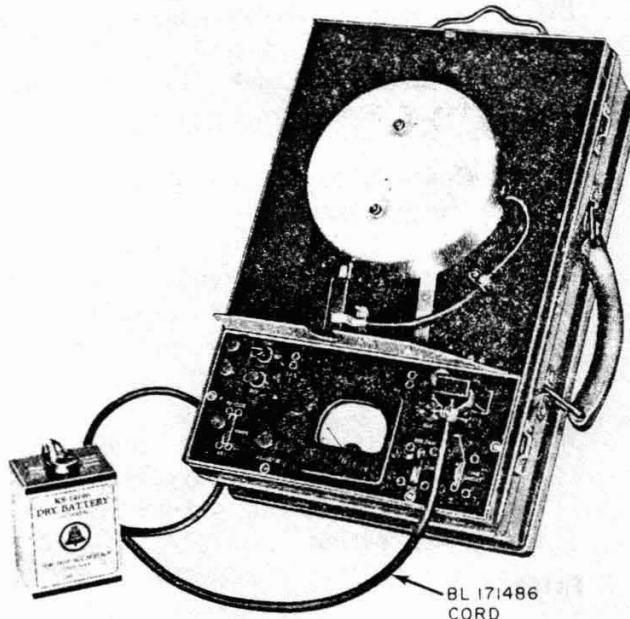

Fig. 17—Testing Individual Battery
**9.02** To test the individual KS-14196 batteries, remove the battery to be tested and insert the special BL-171486 test cord (Fig. 17). The other end of the test cord should be plugged into the jack in the test panel. Then with the LINE SHORT key operated to  $\mp$  position and the 630V switch to OFF, throw the OHMS key momentarily to BRKDWN position. If the current flow is less than 2 amperes, the battery should be replaced.